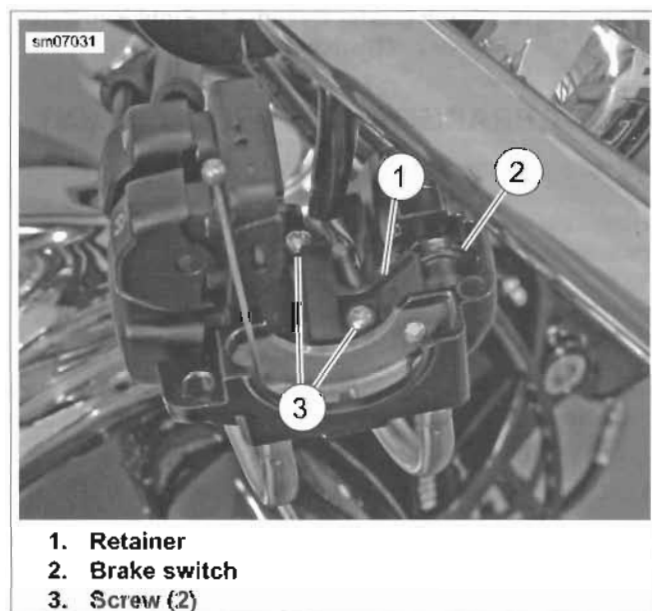

Figure 7-117. Right Control Module and Brake Switch Retainer
11. See Figure 7-117. Remove screws (3) and retainer (1).
1. See Figure 7-117. Place switch assembly into position on lower switch housing and carefully install brake switch (2).
2. See Figure 7-117. From inside the switch housing, remove screws (3) and retainer (1). Remove brake switch (2) from housing.
8. See Figure 7-117. Install brake switch (2) into housing. Install retainer (1) and screws (3). Tighten screws to 8-10 in-lbs (0.9-1.1 Nm).